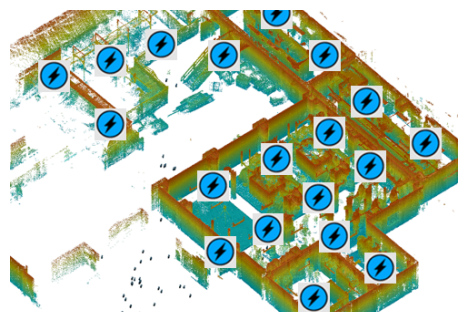

Figure 1-5 Complete Flash scan coverage, when accuracy is important throughout the scanned area.
- Use Flash to cover the entire area when accuracy is important everywhere. In this case, the mobile scan is used only for pre-registration of the Flash scans. (See Figure 1-5, below.)